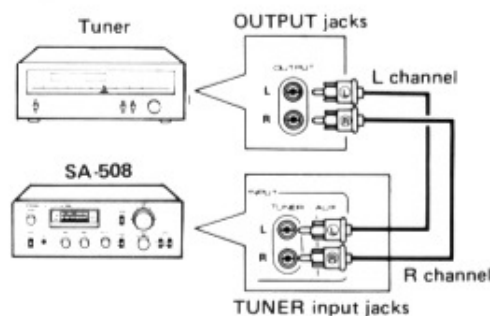

Fig. 4
**TUNER CONNECTIONS (Fig. 4)**